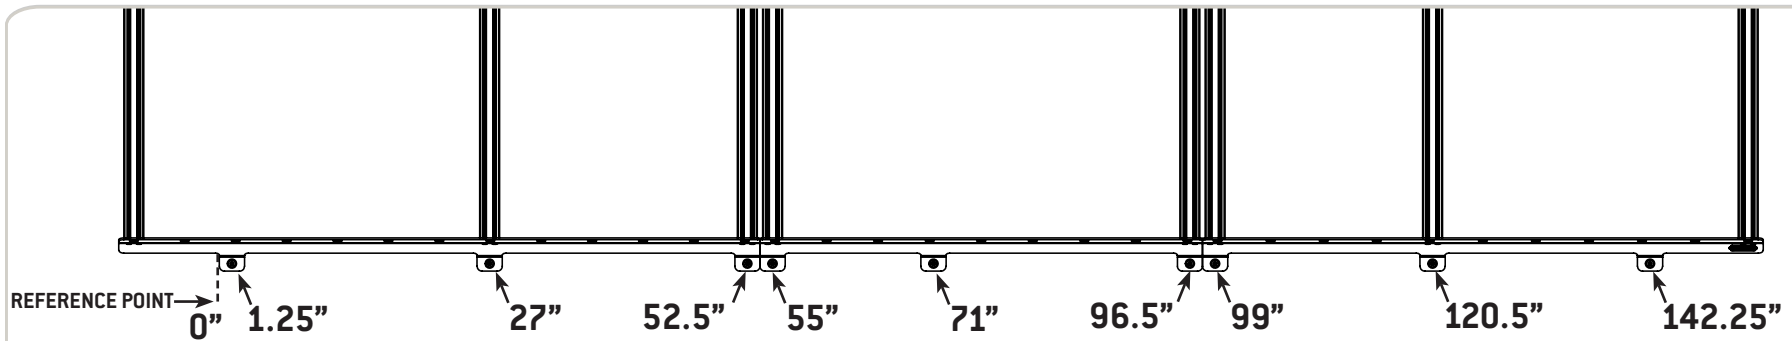

FIG 3
1.2 Layout Rail Nuts (Driver's Side): Space out the Rail Nuts close to their final positions as roughly laid out in FIG 3.